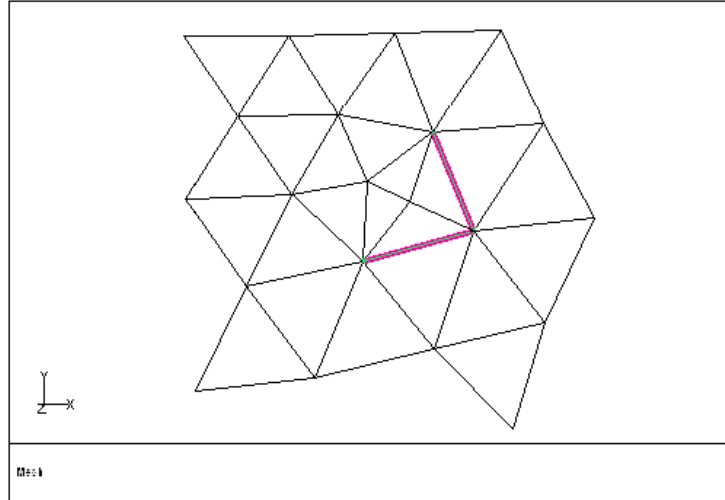

Figure 1.16: Edges Selected for Swapping
- (b) Select the edges to be swapped (Figure 1.16).